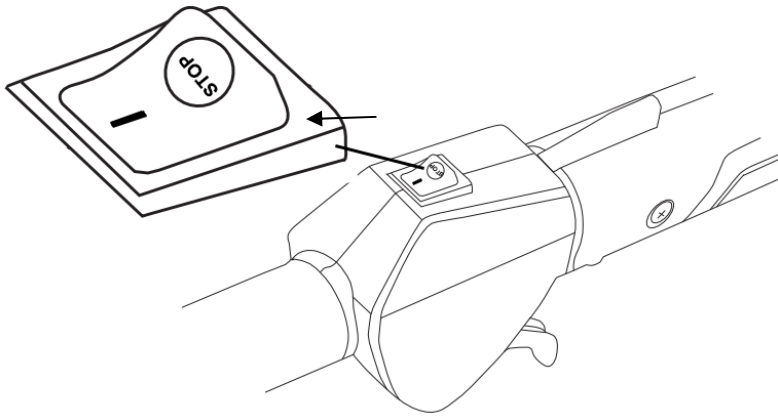

Fig.8
- 2) Turn the engine switch to the "I" position. (Fig.8)